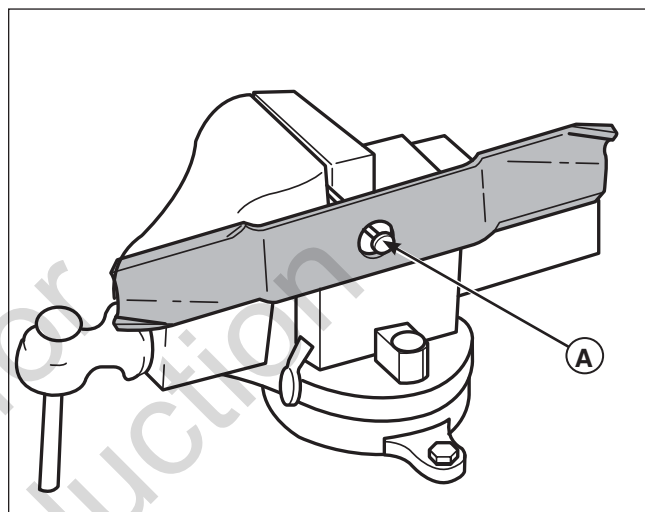

Figure 22. Balancing the Mower Blade
- See Figure 22. Put the mower blade on a nail in a vise and turn the mower blade to the horizontal position.